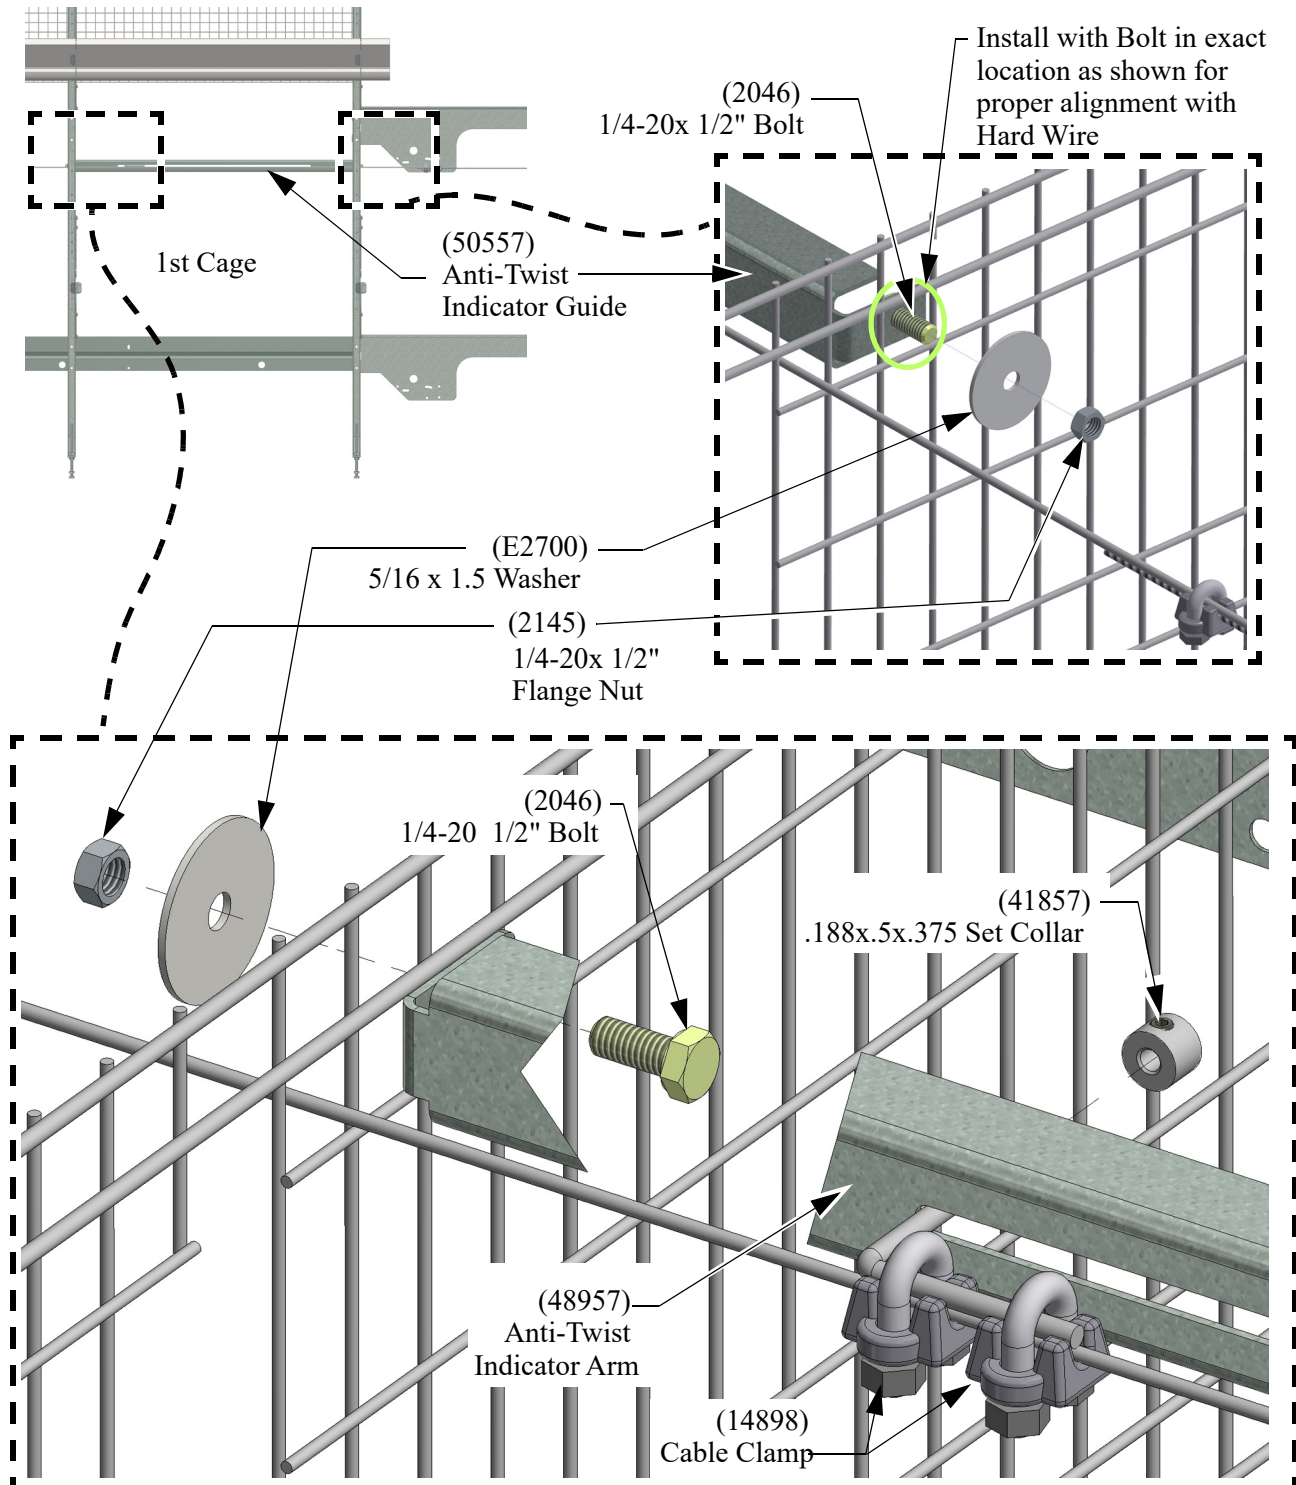

Figure 8. Anti-Twist Indicator Installation
1. Install the (50557) Anti-Twist and Indicator Guide in the location shown below in **(Figure 8.)** using (2046) Bolts, (E2700) Washers and (2145) 1/4-20 Flange Nuts.
3. Secure the Anti-Twist Arm to the Hardwire with two (50557) Cable Clamps and finally slide a (41857) Set Collar on and torque Set Screw down. **(See Figure 8.)**